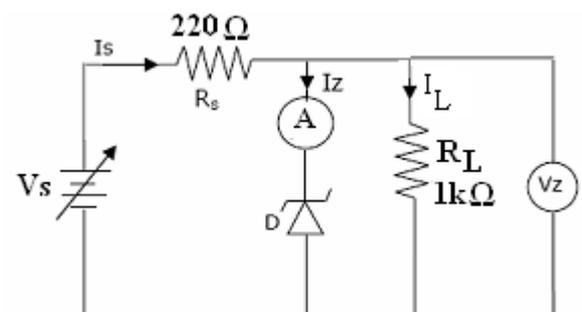

Figure 3
- Construct the circuit shown in Figure 3.
- 7- Calculate the value of the minimum Source voltage (V_{Smin}) in Figure 3 for which below this value the Zener diode will no longer provide voltage regulation. (Assume that the minimum Zener diode current $I_{Zmin} = 1 \text{ mA}$). Compare your calculated result with that from Table 2.
- 8- Calculate the value of maximum source voltage (V_{Smax}) in Figure 3, for which the greater than this value the Zener diode will reach the maximum power dissipation, (Assume that the maximum Zener diode current $I_{Zmax} = 25 \text{ mA}$).
- 10- Calculate the minimum value of the series resistor R_{S-min} in Figure 3 at $V_S = 10\text{V}$ and $R_L = 1 \text{ K}\Omega$. (Assume that $I_{Z(max)} = 25 \text{ mA}$ and $I_{Z(min)} = 1 \text{ mA}$).